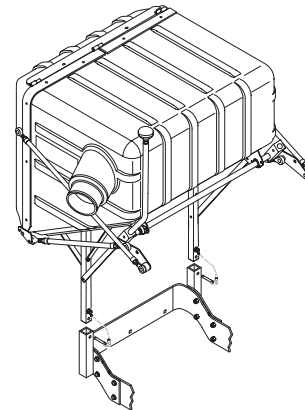

FIGURE 3-6
13. With help from an assistant, install the hopper assembly to the machine by installing the mounting post into the hopper mounting brackets and secure with the ring pins. See Figure 3-6.